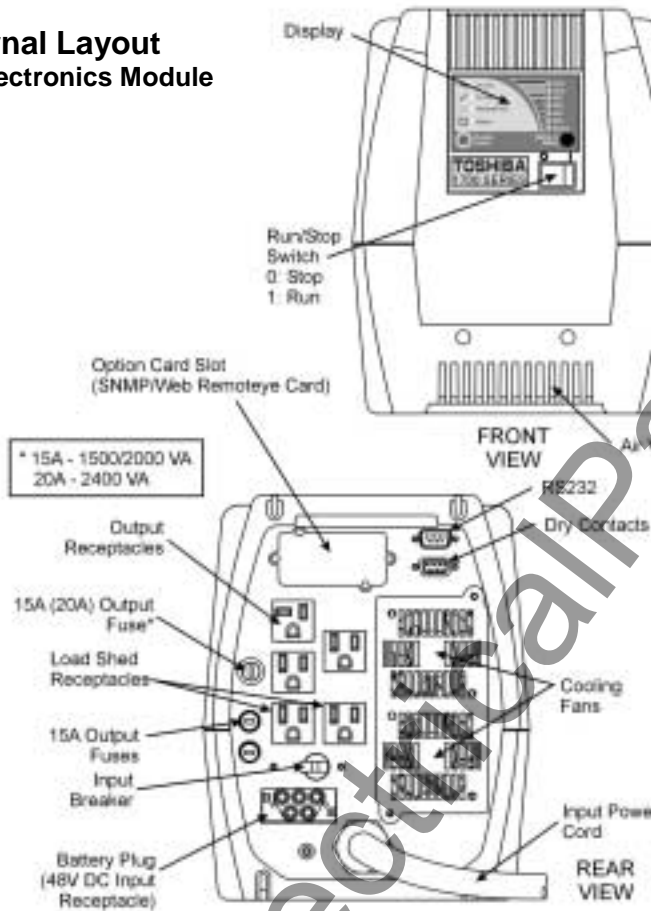

Figure 1
Step 4: Switch the input breaker to the on position (figure 1, page 9).
Once the modules have been connected as shown in the preceding section (UPS Connections, page 10) the UPS system is ready to be started. There are two ways to start the system: from AC input power (if present) or from batteries. If not already done, switch the input breaker on (figure 1, page 9). If the "AC Input" LED is lit, proceed on to "Starting when AC power is available". If the LED is not lit, there is no AC power available. If the unit is to be started when AC power is not available proceed to "Starting on DC power."
Step 1: Make sure the RUN/STOP switch is in the STOP position (figure 1, page 9).
The other option is to turn the UPS off completely. This means that in addition to the UPS's inverter shutting down, **all power will be stopped to any equipment attached to the UPS.** To shut the UPS down completely switch the RUN/STOP switch to the STOP position. Then switch the input breaker off (figure 1, page 9). Once the input breaker has been switched off, all the LEDs should turn off. (If the RUN/STOP switch is in the RUN position when the input breaker is switched off, the unit will switch to battery backup mode. The unit will continue to run for as long as the available battery reserves can support the connected loads.)
The 1700 Series includes a load shed function. During battery backup operation, this function allows the load connected to two of the receptacles (figure 1, page 9) to be turned off in an effort to conserve power for more critical loads. The battery level at which these receptacles will be turned off, or "shed", can be set by the user (see "The Function Control Button", page 17). By default, this feature is configured so that the receptacles will remain on for the full battery backup time available (no "shedding")